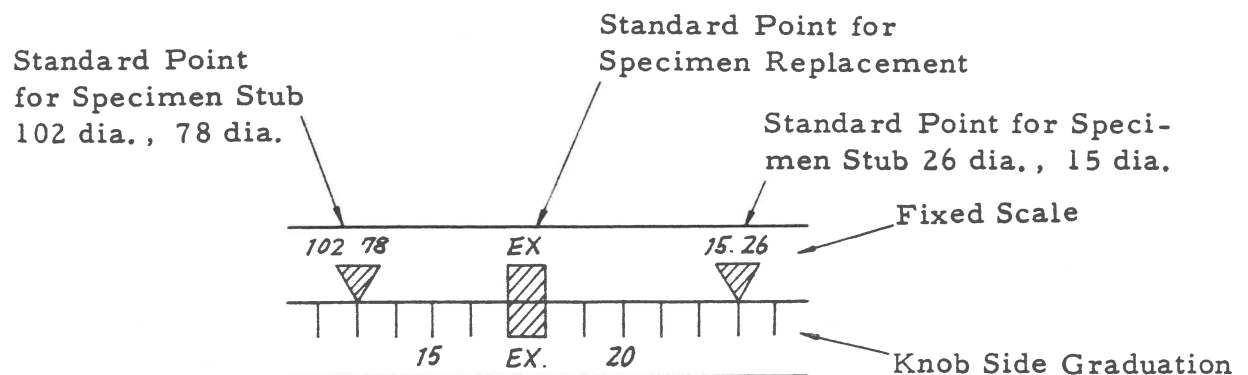

Fig. 2-7 Graduations of Z-Control Knob
* Indicates working distance (WD) at a specimen tilt angle of 0, or distance between the lower surface of the objective lens and specimen. Take reading of a graduation on the Z-control knob as illustrated in Fig. 2-7 at a standard point corresponding to the particular specimen stub employed.
- (1) Turn the aperture opening selector knob to set the objective lens aperture scale to **2** or **3**. See Fig. 2-7.